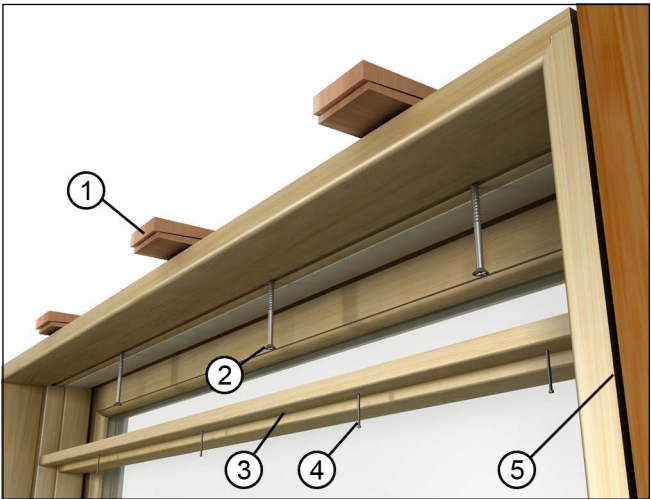

Figure 10 ELCA/ELCAP additional installation with screws.
- 3. Reinstall the head jamb stop and fasten with 3/4" brad nails spaced 6" - 8" apart. See Figure 10.